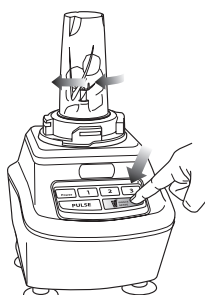

Fig. 3
- 5 Press down on the Single Serve button in short intervals to activate. (Fig. 3)